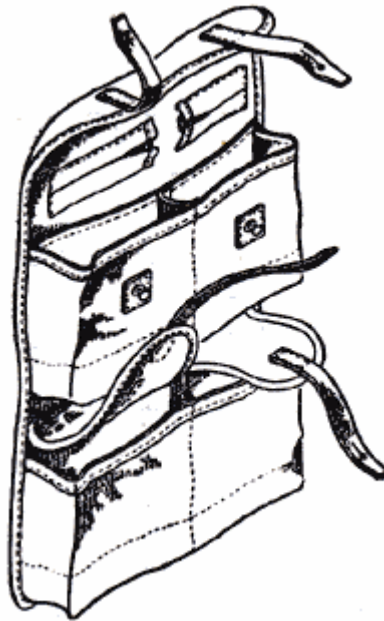

Fig. 3. Carrier for optical sight and magazines.
- carrier for a sight and magazines (Fig. 3) - 1 pc.;